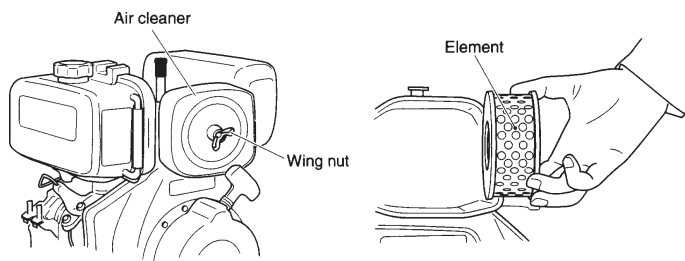

Figure 25. Engine Air Filter and Element
2. To clean or replace air filter loosen the wing nut on the air filter housing (Figure 25) remove the cover and take out air filter cartridge. If only cleaning of the air filter is desired blow through the air filter cartridge from the inside, moving a jet of dry compressed air up and down until all dust is removed.